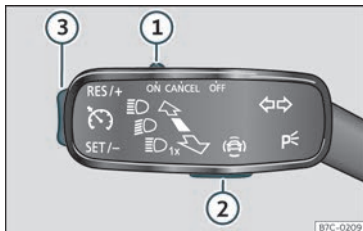

Fig. 157 On the turn signal lever: buttons to operate the speed limiter.
To change between the driving assistance systems, press button  >>> Fig. 157 ②, then select with the right thumbwheel on the multifunction steering wheel in the instrument panel menu and press the thumbwheel to confirm your selection.
- Move control»» **Fig. 157** ① to position **ON** and press button ②.
- While driving, press button»» **Fig. 157** ③ in the area **SET/-**.
You can set the speed using button »» **Fig. 157** ③:
- Move control»» **Fig. 157** ① to position **OFF**.
If you want to temporarily deactivate the speed limiter, e.g. for overtaking, move the control»» **Fig. 157** ① to position **CANCEL** or press button ②.
After overtaking, the speed limiter can be activated with the previously programmed speed by pressing button»» **Fig. 157** ③ in the area **RES/+**.